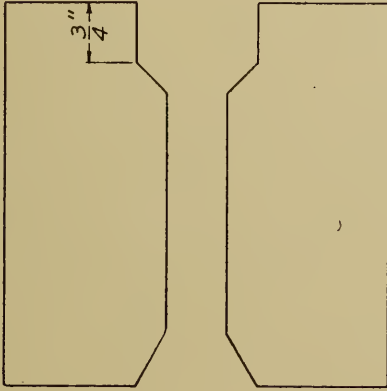

Fig. 1
2. Set folding machine so as to turn a $\frac{1}{8}$ " sharp lock. Turn one long edge of each piece. (Fig. 1.)
2. Mark a line $\frac{3}{8}$ " in along one long side of each piece (Fig. 1).
3. Place the long edge of the metal in machine and turn the edge, (Fig. 1) as shown by instructor in demonstration.